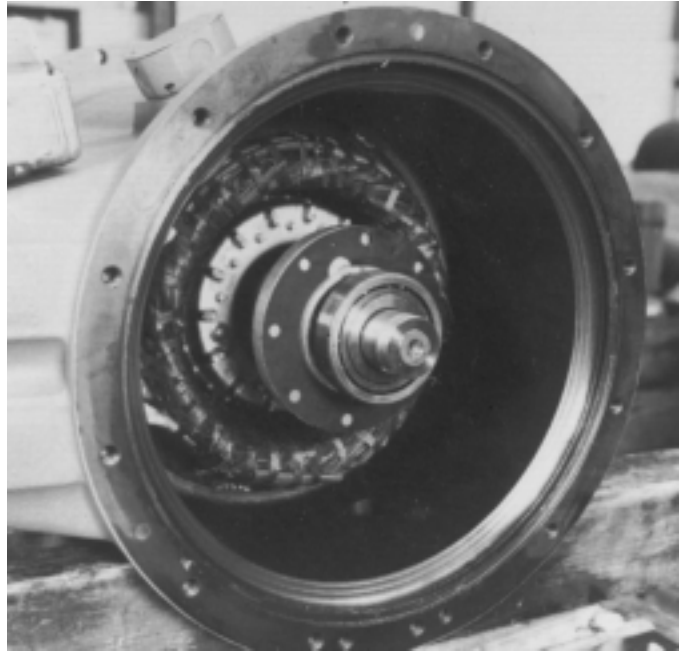

Figure 16. Installing outer half of thrust bearings
- c. Prior to installing the outer half of the bearing set on the motor shaft, line up the high spot marks on both races. Install the bearing on the motor shaft with the thin side of the outer race facing out of the motor and the high spot marks on both races 160° to 200° away from the high spot marks on the inner half of the bearing. See Figure 16.